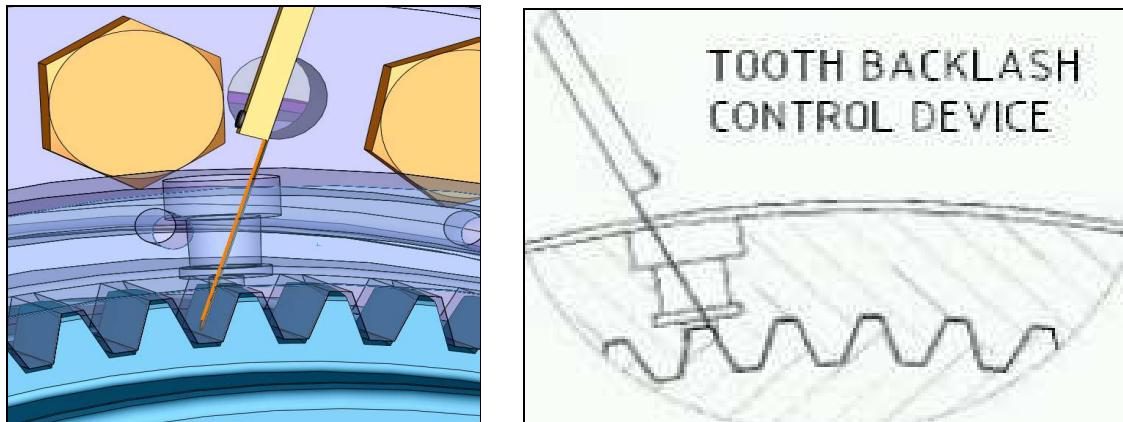

Fig 5: Two sights of gauge method for backlash measurement
- Insert the gauges through the hole in the way that it may be seen on figure 5. This must be done through the side that has no in contact between hub and sleeve.